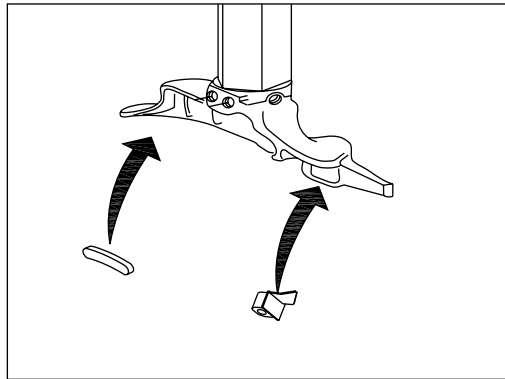

Figure 1-7
- Mounting Head Guards - These plastic / nylon inserts are placed into the mounting head to protect the rim from being damaged by the mounting head (shown in figure 1-7).